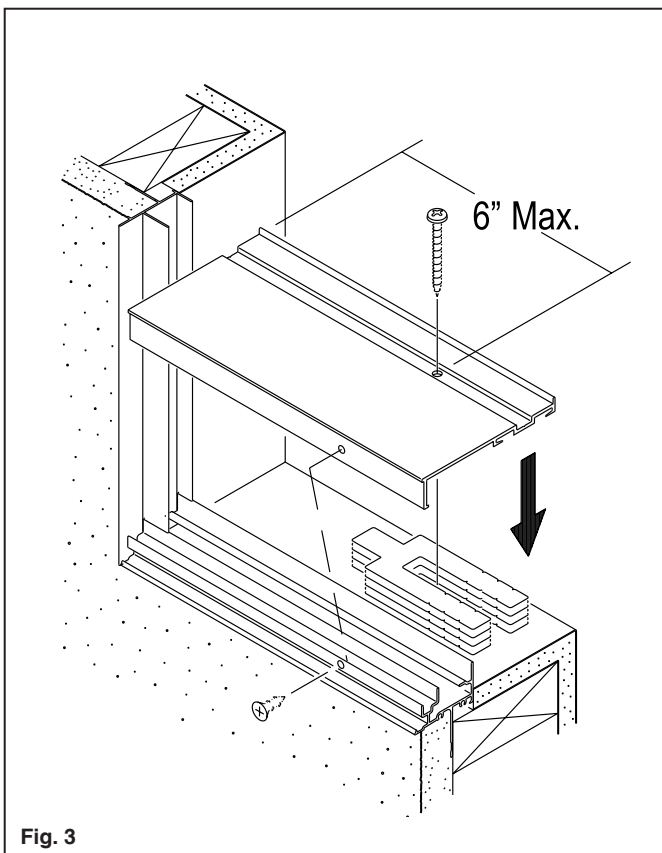

Fig. 3
B. Horse Shoe shims or equal, are needed to support the Sill Plate at installation screw locations. Make sure Sill Plate is straight and level prior to fastening. Screws should be no more than 18" apart on center, with corner screws approximately 6" from jambs. See **Fig. 3**. Use #8 x 2" Phillips sheet metal screws. Length of screw may vary per job condition. Screws must be long enough to secure Sill Plate to existing wood sill. Anchor the exterior leg of the Sill Plate to the existing sill with #6 x 1/4" Phillips flat head sheet metal screws. Seal screw heads with an appropriate sealant after installing.